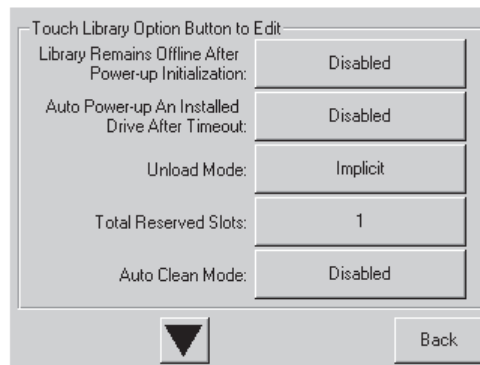

Figure 28. Total Reserved Slots screen
2. From the Library options screen, press the down arrow to scroll to the screen that contains the Total Reserved Slots option as shown in Figure 28.